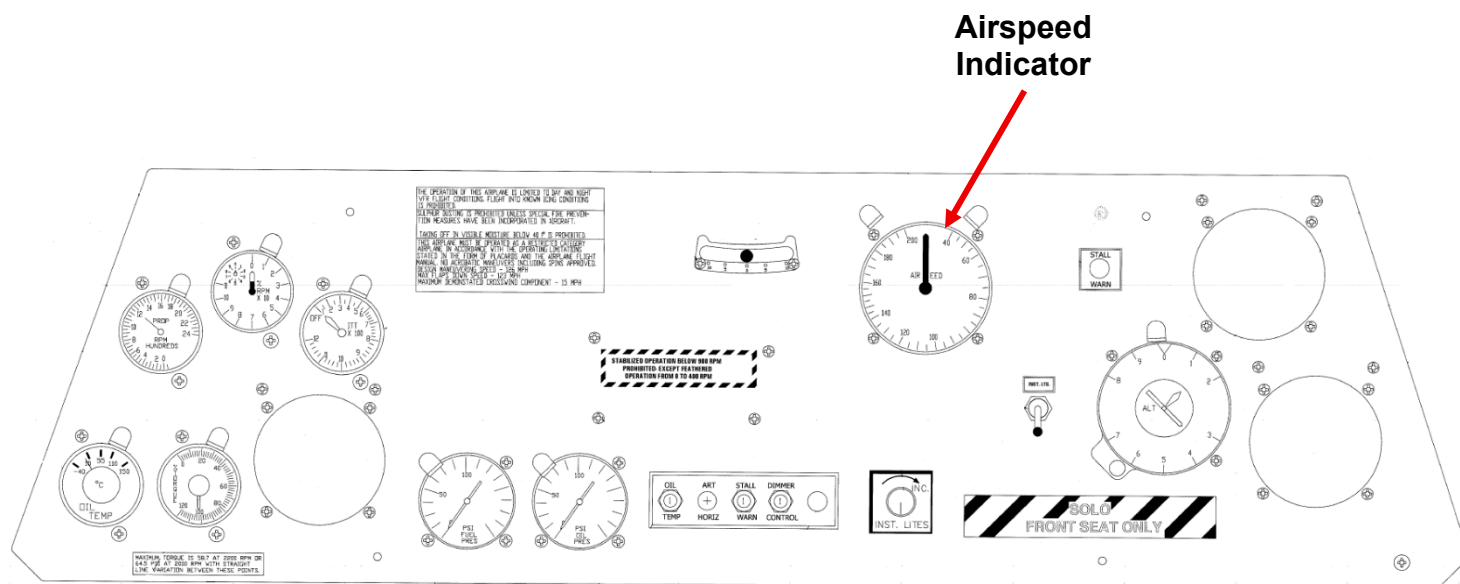

Figure 45-6
1. Original Airspeed Indicator Removal: See Figure 45-6 and 45-7.